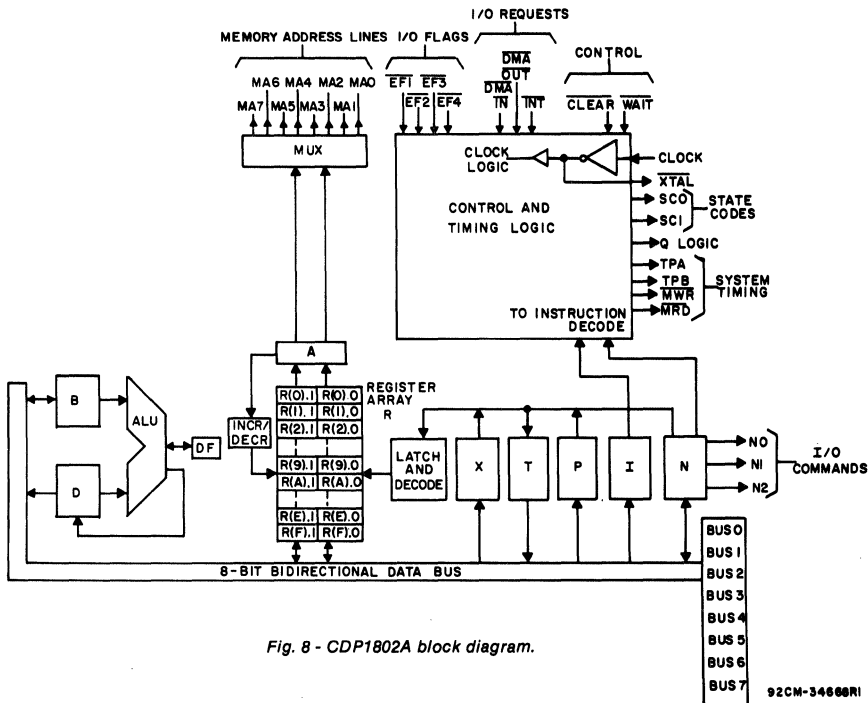

Fig. 8 - CDP1802A block diagram.
The CPU block diagram is shown in Fig. 8. The principal feature of this system is a register array (R) consisting of sixteen 16-bit scratchpad registers. Individual registers in the array (R) are designated (selected) by a 4-bit binary code from one of the 4-bit registers labeled N, P, and X. The contents of any register can be directed to any one of the following three paths: